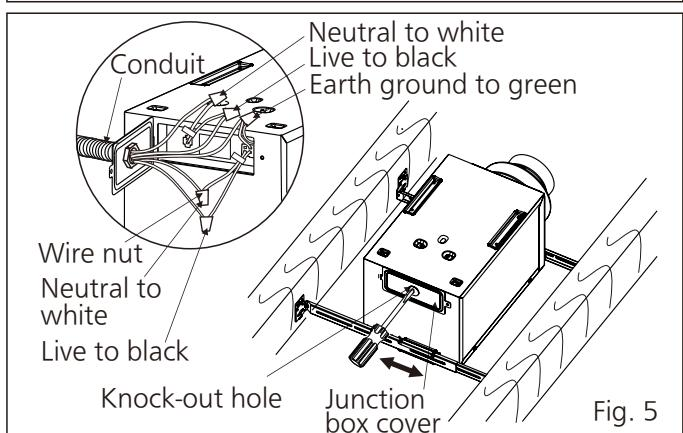

Fig. 5
7. Remove the knock-out hole from the junction box cover, and remove the junction box cover. Then secure the conduit or stress relief to the junction box knock-out hole. (Fig. 5)
8. Refer to wiring diagram (Page 5). Follow all the local electrical safety codes as well as the National Electrical Code (NEC). Using UL approved wire nuts, connect house power wire to ventilating fan wires. (Fig. 5)